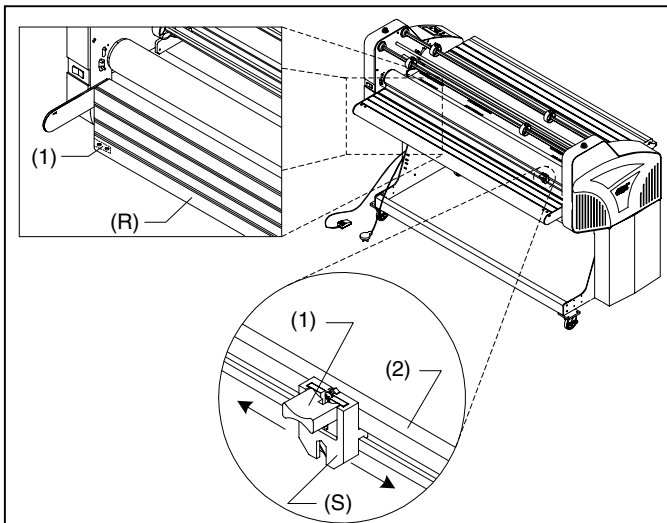

Fig. 20
**R. REAR TABLE:** (Figure 20) Provides a working surface when operating the machine from the rear. This table may also be lowered when webbing for roll to roll applications.